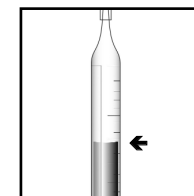

Figure 5
8. When the color of the liquid in the ampoule changes to **PINK**, remove the ampoule from the Titrettor. Hold the ampoule, **tip pointed upward**, and read the scale opposite the liquid level (fig. 5). Results are expressed in ppm (mg/Liter) calcium carbonate (CaCO3).